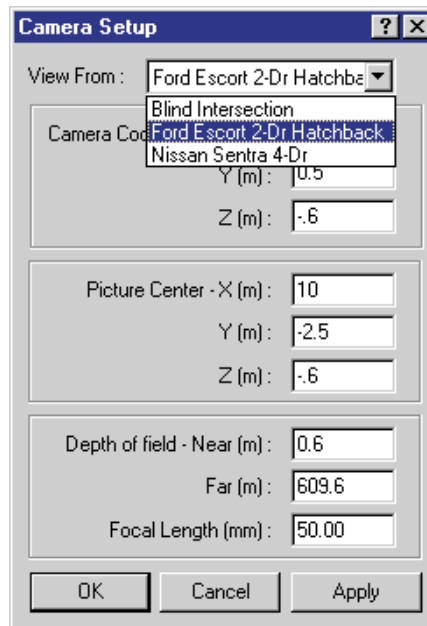

Figure 5-9 HVE Set Camera dialog, used for attaching the camera to the vehicle.
- Choose *Set Camera* from the View menu. The Camera dialog is displayed (see Figure 5-9).
- Click on the *View From* option list. The list displays each object in the event (*Blind Intersection*, *Ford Escort 2-Dr Hatchback* and *Nissan Sentra 4-Dr*; see Figure 5-9).